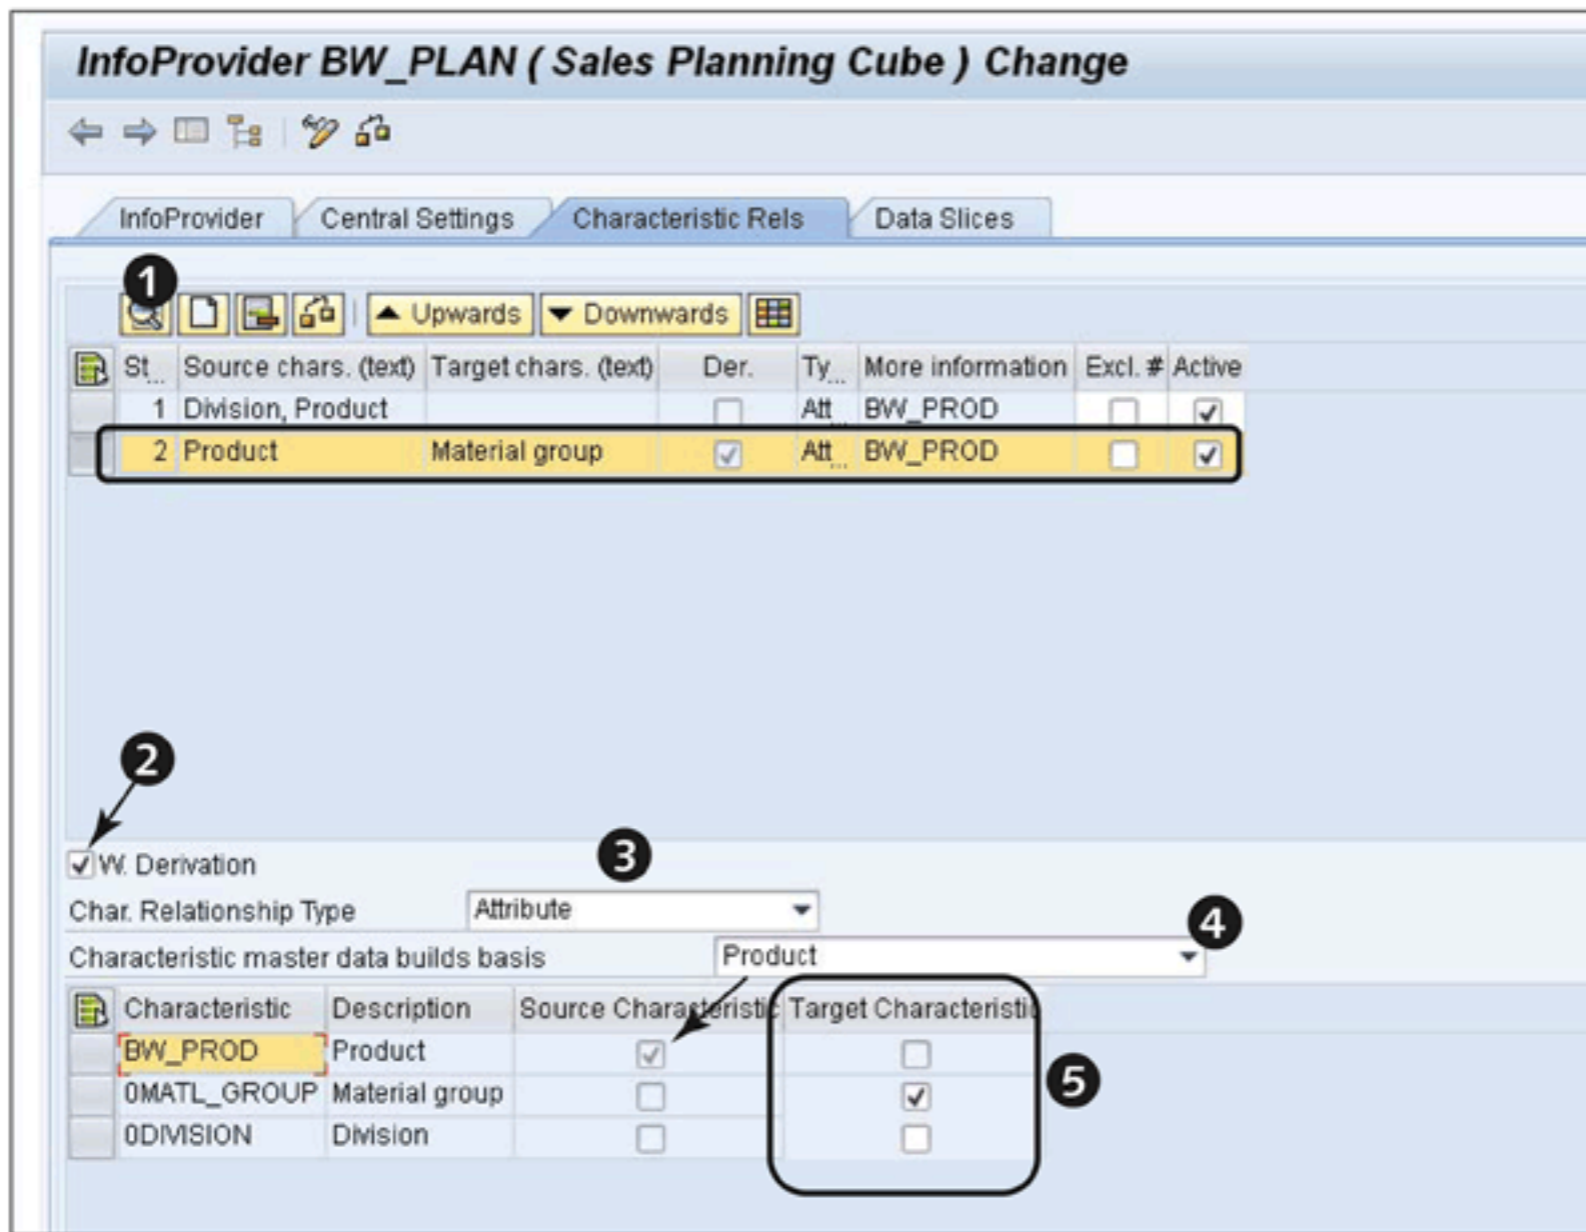

Figure 12.16 Create Characteristic Relationship with Derivation
The *derive* type of characteristic relationships can also be defined in a similar way. For our example scenario, the requirement is to allow users to enter the plan values for products (represented with the material InfoObject), and then derive the corresponding values of product groups (represented with the material group InfoObject) while saving the data into the real-time InfoCube. The procedure to create this specific characteristic relationship is explained next and illustrated in Figure 12.16.
Create a new characteristic relationship by clicking on the CREATE button (1) of Figure 12.16). We would like to derive the product group from product values, so select the checkbox W. DERIVATION for this characteristic relationship (2). Select ATTRIBUTE as the type of characteristic relationship (3). Select the characteristic that is used to derive the values for other characteristics (4). This characteristic is marked as a source characteristic. Select the characteristics that are to be derived from the source characteristic. These characteristics are called *derived characteristics*. For our example, select MATERIAL GROUP as the derived characteristic (5) of Figure 12.16).